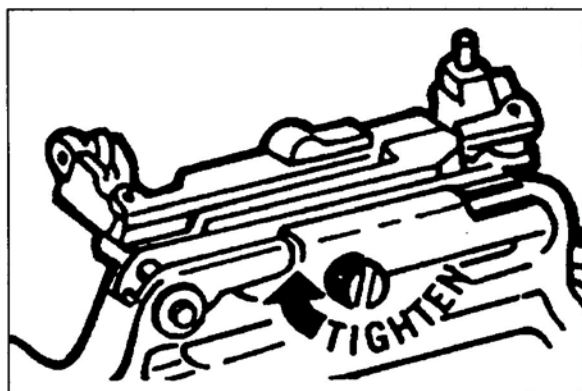

Figure 10. Installing the quadrant sight.
- d. Install the quadrant sight (Figure 10).